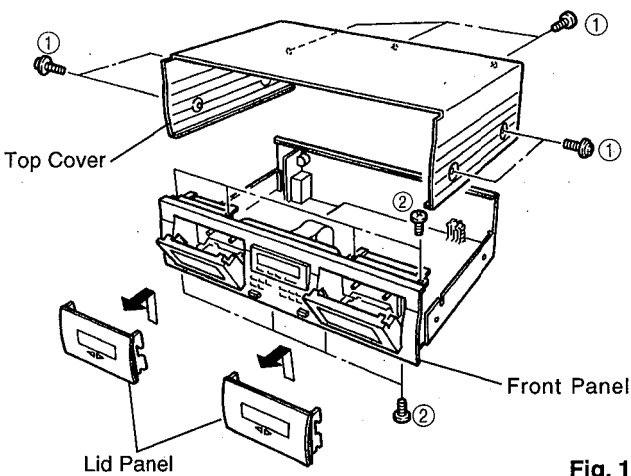

Fig. 1
Remove 7 screws (①) in Fig. 1.
- b. Remove 8 screws (②) in Fig. 1.